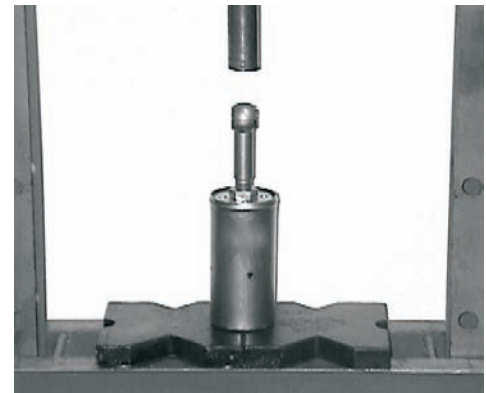

Figure 1
- To disassemble your shock with a hydraulic press, make a fixture to support the shock body as shown in figure 1. You must leave about 2" of space between the end of the ram and the top of the mount (see figure 1). Press straight down on the mount with the hydraulic ram, it only needs to be compressed about ¼" to expose the wire ring. Remove the wire ring with a pick (see figure 2) and slowly release the hydraulic pressure. Separate the damper from the shock body and spring. You can also disassemble the shock using Progressive Suspension tool #32-5507. Follow the instructions enclosed with the tool.